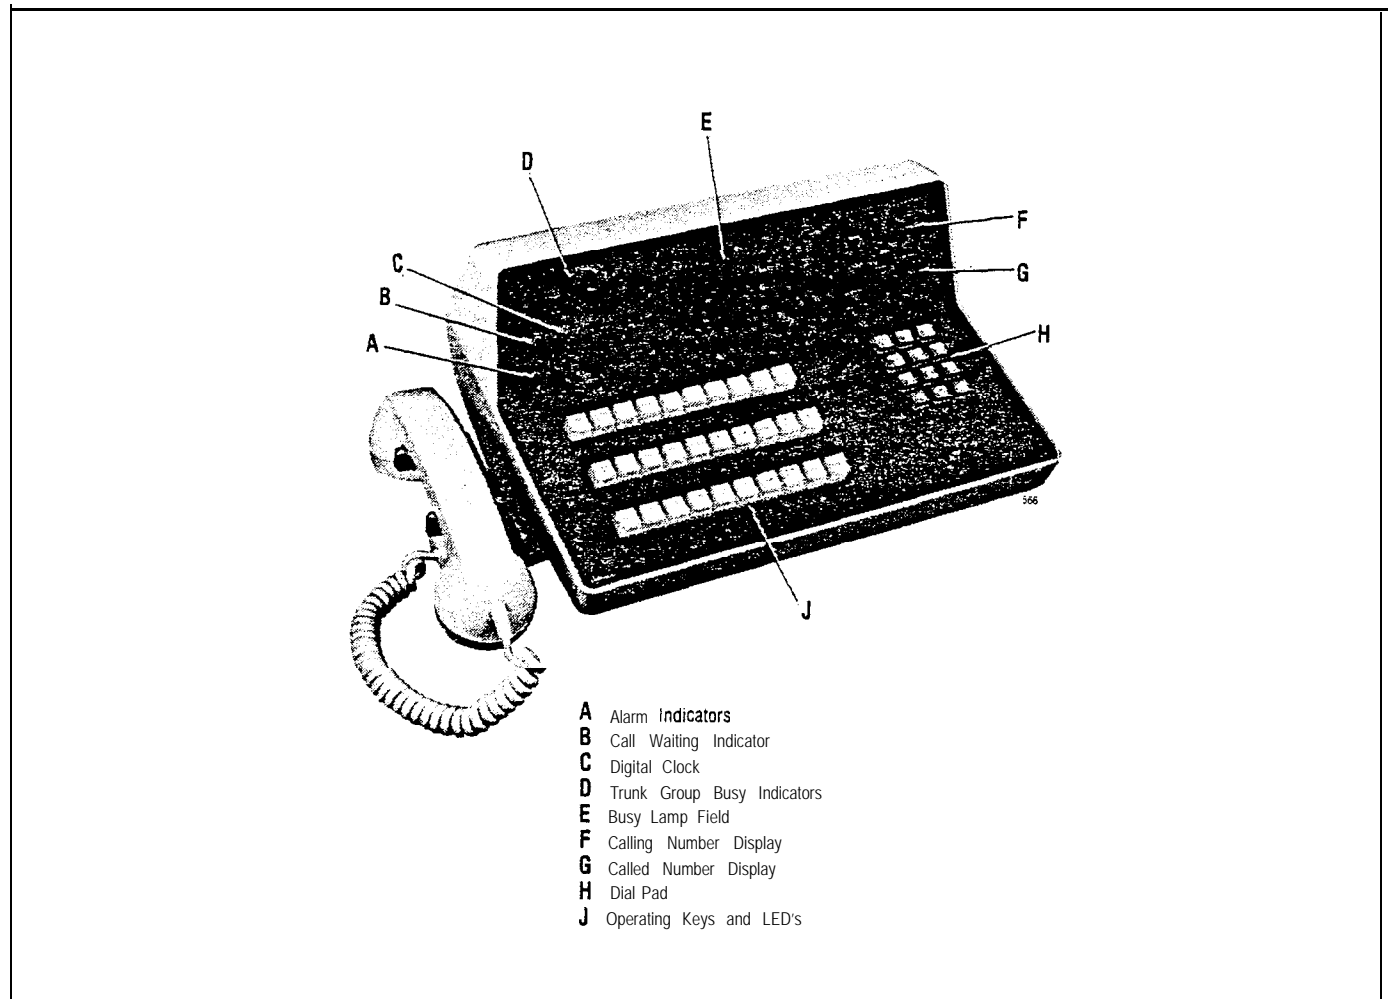

Fig. 2-1 Attendant Console
2.01 The attendant console (Fig. 2-1) is designed specifically for use with the SX-100 and SX-200 PABX's. The console provides the attendant with a number of unique features which increase the speed of operation and ease of call processing.